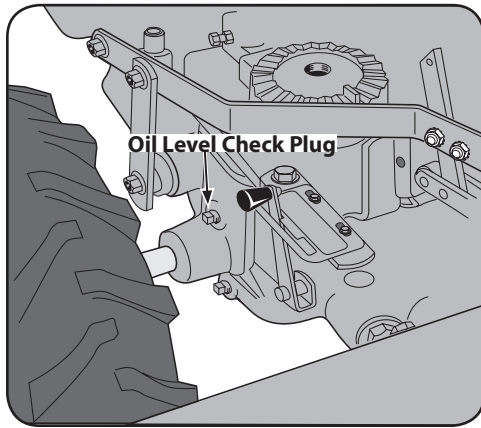

Figure 5-6
4. Use a  $\frac{3}{8}$ " wrench to remove the oil level check plug on the left side of the transmission housing. See Figure 5-6.
2. Remove the dipstick from the tine attachment. See Figure 5-6.